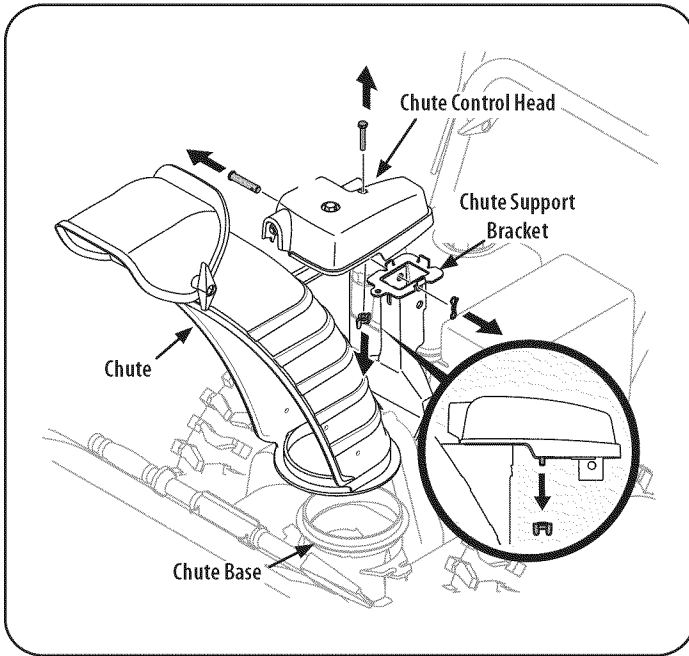

Figure 4
5. Remove wing nut and hex screw from chute control head and clevis pin and cotter pin from chute support bracket. Position chute (forward-facing) over chute base. See Figure 4.